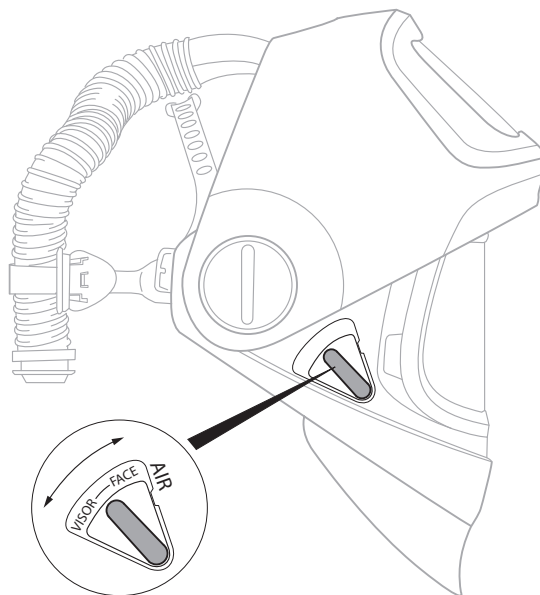

Fig. 8b
- b. To adjust the airflow toward the visor or the wearer's face, with the airflow coming from the top (UP) of the welding helmet, locate the VISOR – FACE lever on the right side of the welding helmet. Adjust it to the desired position for incoming airflow (Fig. 8b). The adjustment drives a deflector in the top of the welding helmet that aims air at the visor or wearer's face.